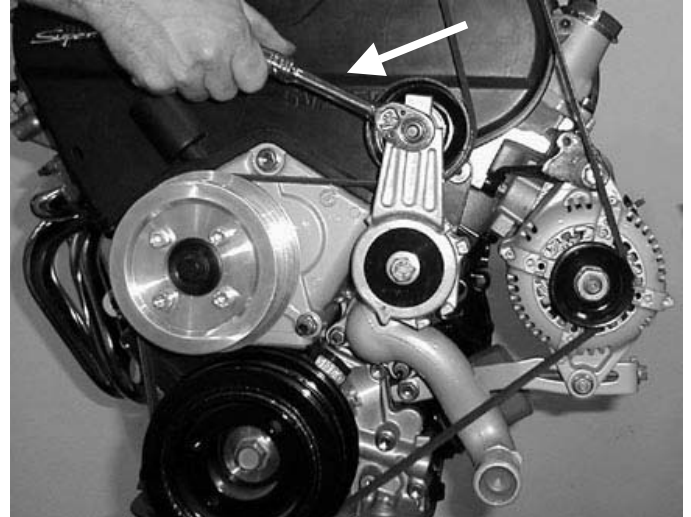

Figure 18
4. Retract the dynamic tensioner with a 3/8" ratchet and place the drive belt back over the supercharger pulley (Figure 18). Make sure the belt is routed properly and is centered on all pulleys.